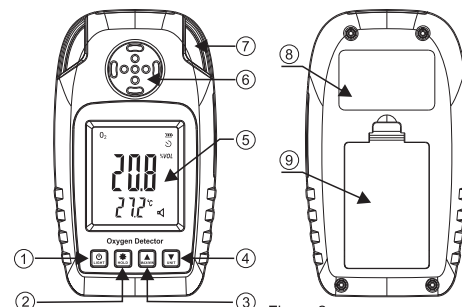

Figure 2
C. Name of Each Component (Figure 2)